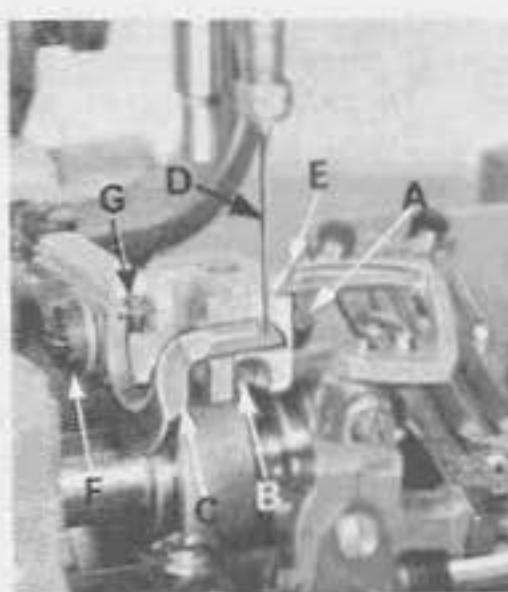

Fig. 9
If feed dog teeth are not parallel with the throat plate, loosen nut (A, Fig. 9) and turn screw (B) clockwise to lower the front teeth, and counterclockwise to raise the front teeth. Retighten nut when feed dog is set properly.
Set the rear needle guard (C, Fig. 9) horizontally so that it does not quite contact the rear of the needle (D) when at its most forward point of travel. A clearance of .005 inch (.127mm) is permissible. It should be set as low as possible, yet have its vertical face approach within about 3/64 inch (1.19mm) of the needle, until the point of the looper